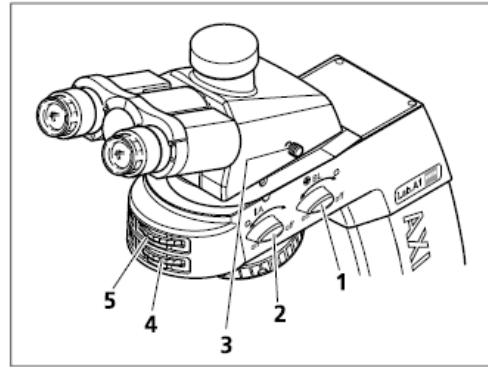

Fig. 4-17 Axio Lab.A1 for transmitted light conoscopy
- Swivel the analyzer into the beam path (**on** position) with rotary knob **A** (Fig. 4-17/2). The direction of oscillation can be changed using the setting wheel (Fig. 4-17/4) of the analyzer.
- Switch on Bertrand lens **BL** (Fig. 4-17/1) (Position **on**). The axial figure will appear in the field of view.
- Bring the axial figure into focus with setting wheel (Fig. 4-17/5).